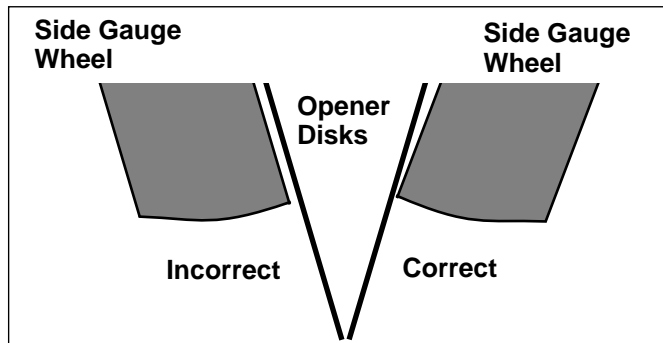
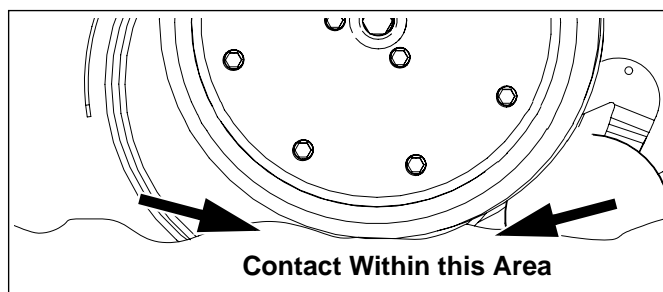

Figure 54
Figure 55
*Refer to Figure 54 and Figure 55*